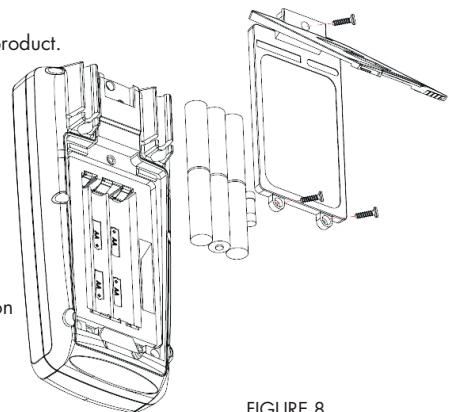

FIGURE 8
### 2. Installation or replacement of battery/fuse (see figure 8)
6 1.5V(M) batteries, as shown in Figure 8, provide power for the product.
4. Take out the damaged fuse as per the methods specified in Figure 8, and replace them with the fuse of the same specification (specification: 0.315A/250V).